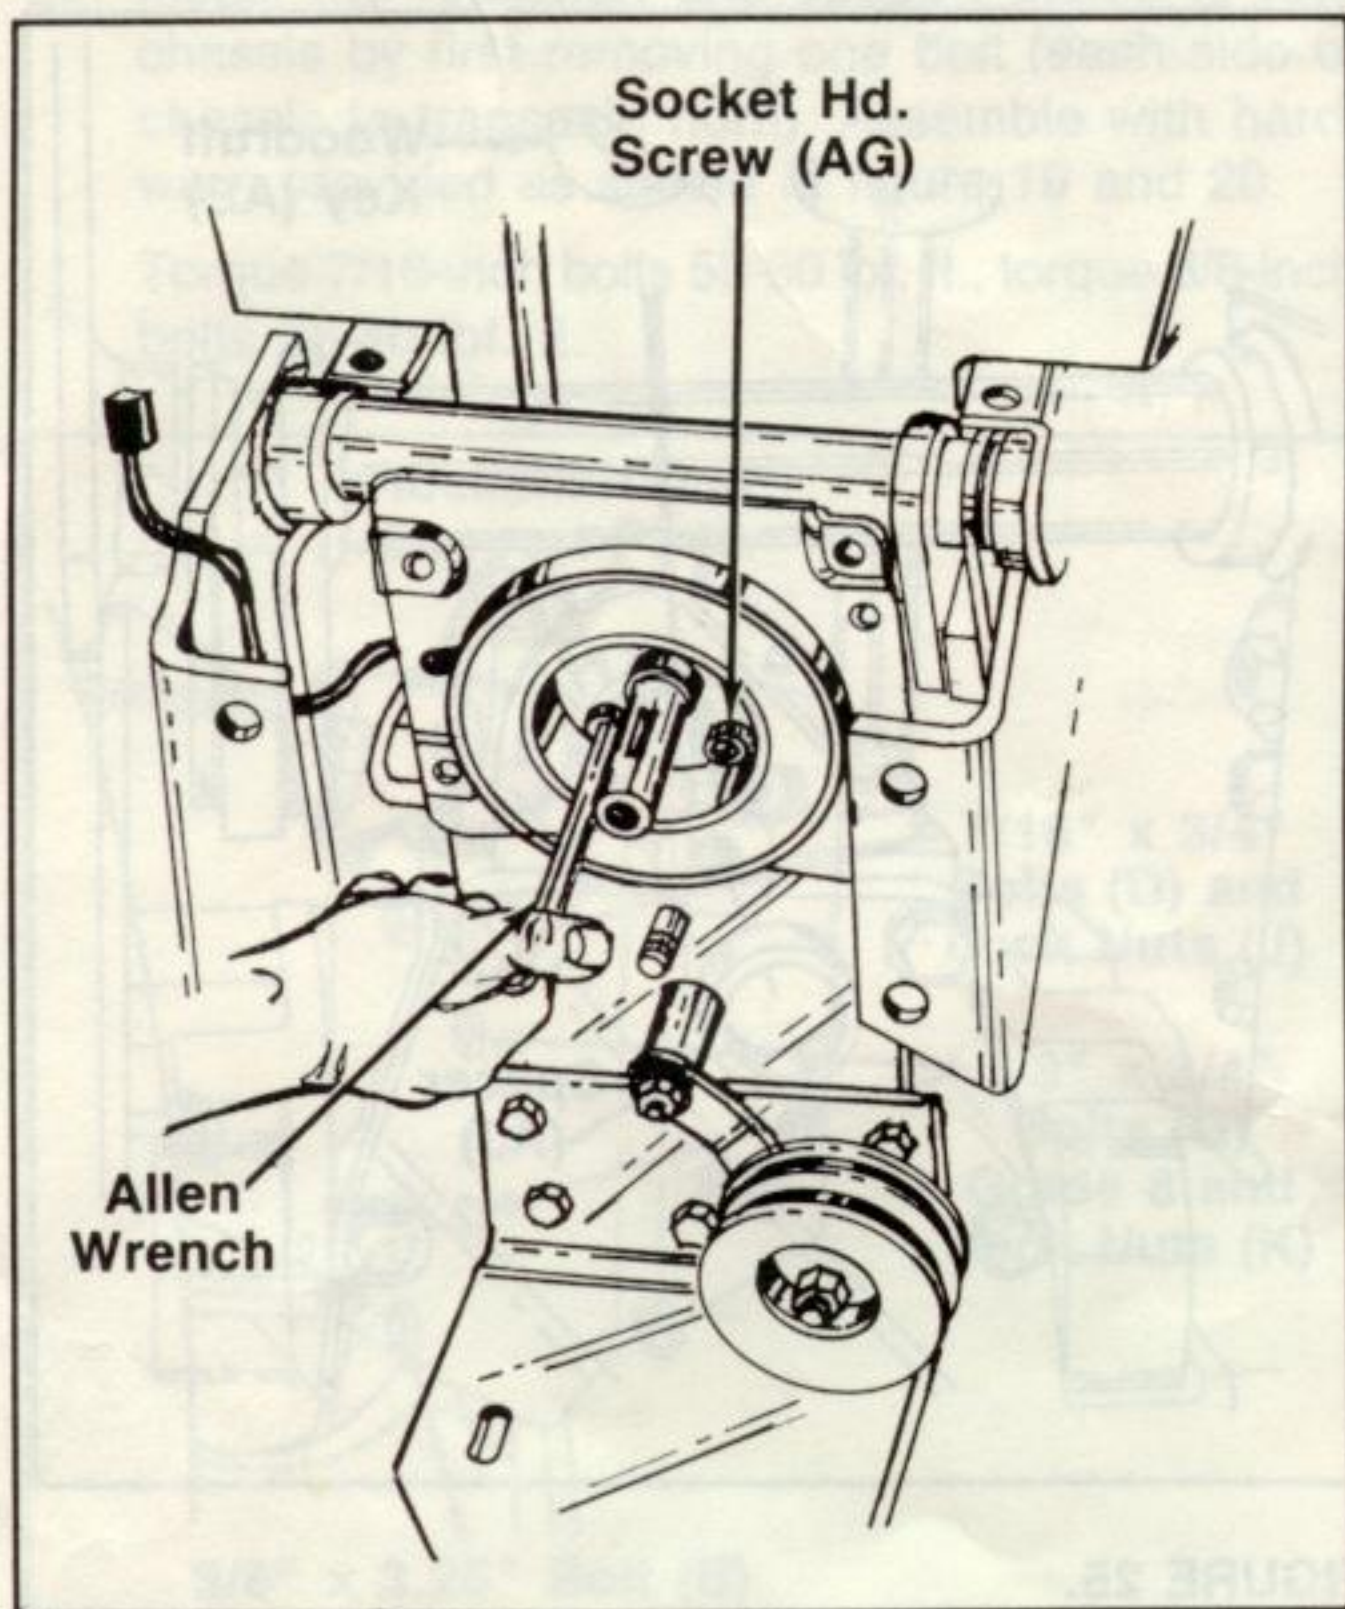

FIGURE 27.
36. Secure clutch field assembly to rear P.T.O. shaft casting with four socket head screws (AG) using an Allen wrench as shown in figure 27.